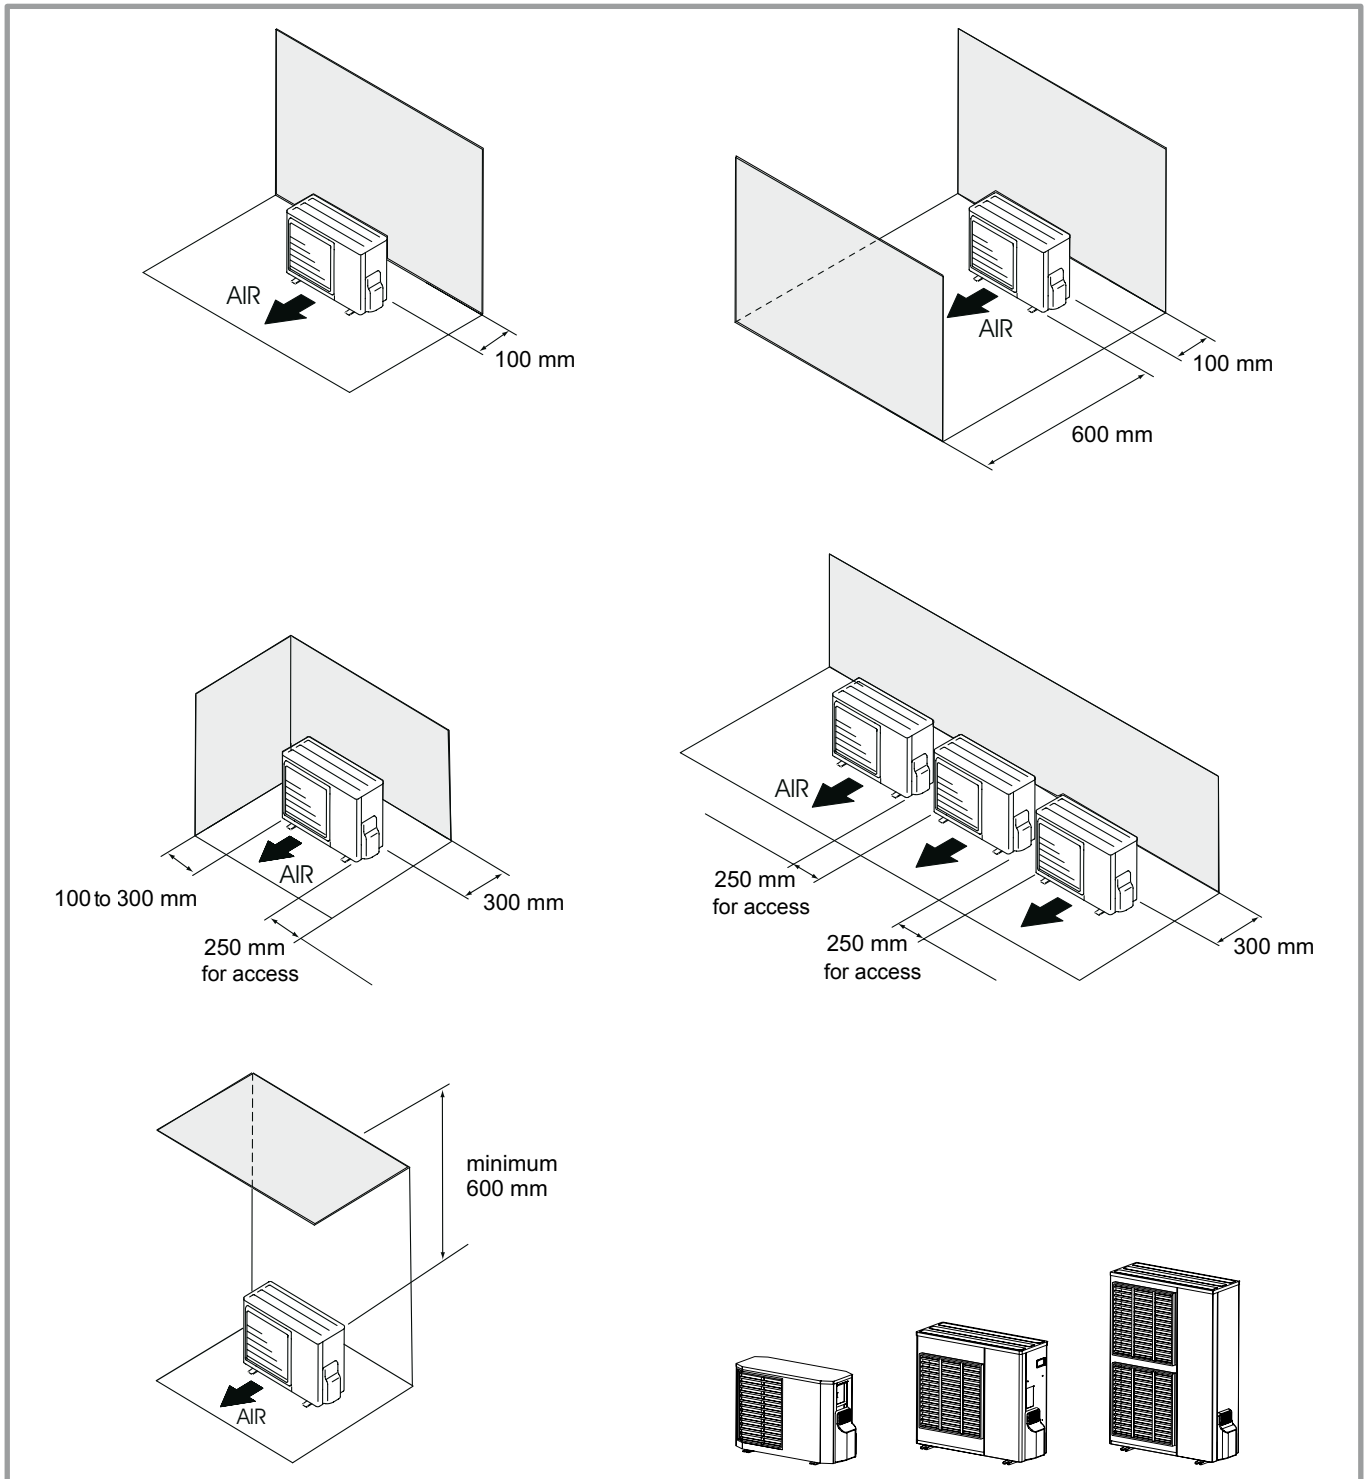

figure 12 - Minimum installation clearances around outdoor unit (all models)
☞ **The outdoor unit must only be installed outdoor (outdoors). If a shelter is required, it must have broad openings on the 4 walls and observe the installation clearances (figure 12).**
- The unit must be easily accessible for future installation and maintenance work (figure 12, page 13).
- Nothing should obstruct the air circulation through the evaporator and from the fan (**figure 12**).